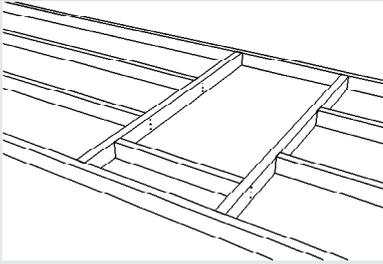

fig 3
2. Using timber of a compatible size to the existing ceiling framing, ie 100 x 50 or 150 x 50 H1 treated, machine gauged radiata pine, frame up the opening. It may be necessary to cut through some existing ceiling joists to achieve the required size. Ensure these are properly supported during and after cutting. Three possible arrangements are shown in figures 3,4 & 5